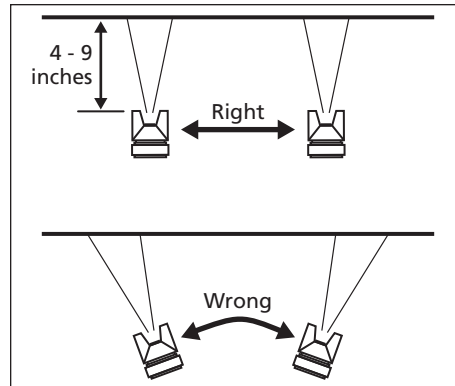

Figure 8 - Painting strokes
- Keep gun parallel and 4 - 9 inches from surface of object being sprayed. (See Figure 8). If the material delivery is adjusted for a small narrow pattern, it may be necessary to move closer to the work surface.